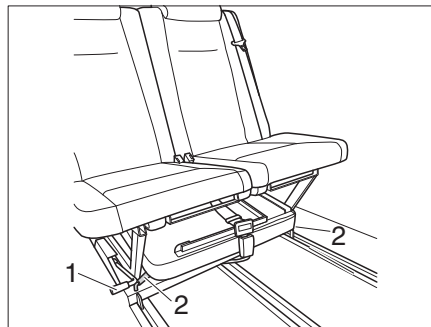
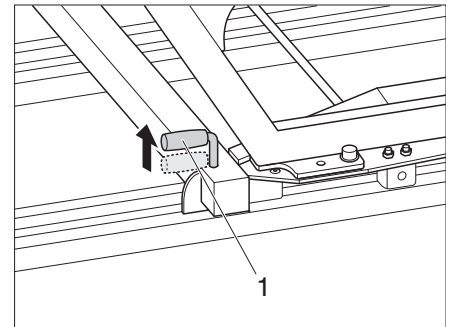

Fig. 9 Remove bench seat
Fig. 10 Catch lever
- Pull both locking levers (Fig. 9,2 or Fig. 10,1) upwards.
- Pull the positioning lever (Fig. 9,1) and carefully push the bench seat backwards until the seat can be lifted out of the rails.